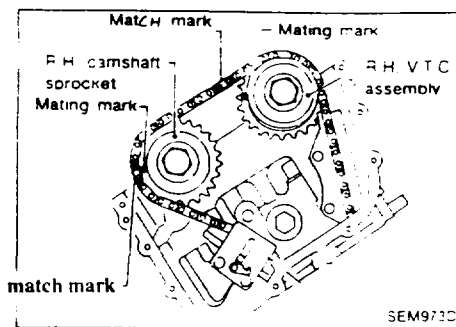

Figure 10
1. With the engine still set at 120 degrees BTDC, install the cam sprockets on the RH cylinder head, aligning the chain marks with the sprocket timing marks. Be sure all slack is removed from the drive side of the chain [the drive side does not have the tensioner]. (Figure 10)